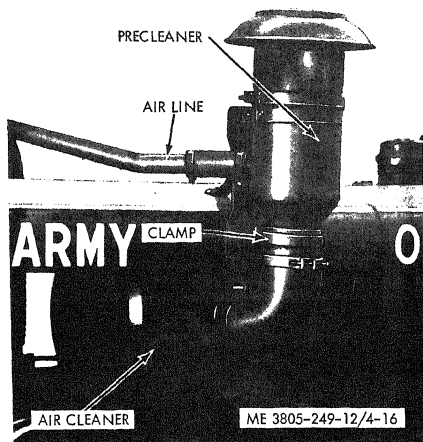

Figure 4-16. Air cleaner.
a. Removal. Refer to figure 4-16.
(1) Loosen the clamp securing the precleaner assembly to the air cleaner, disconnect the air line, and remove the precleaner.